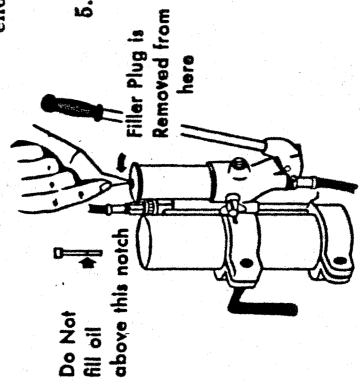

Fig. 18
4. To refill "Hydra-Power" hydraulic reservoir, collapse ram if connected to pump, permitting oil to flow back into pump. Remove filler plug at end of pump Fig. 18.